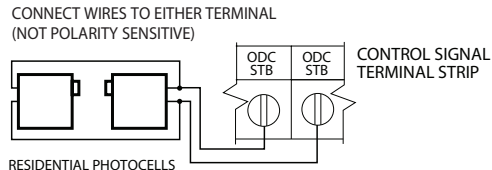

Figure 7
- Series II Commercial Monitored photocells and Residential Safe-T-Beam® Monitored Photocells. **Fig. 7 & 8.** Wiring to these photocells can be connected to either terminal (they are not polarity sensitive). (**Troubleshooting on page 8.5**)